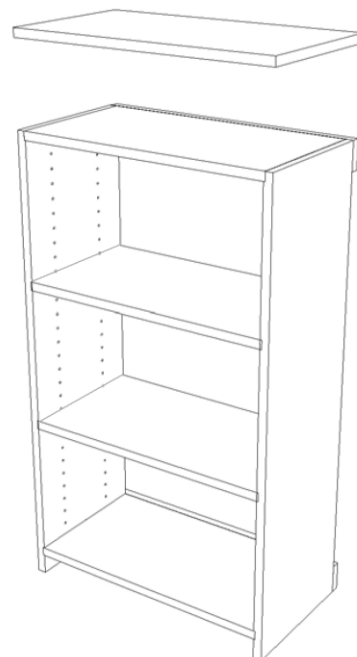

Figure 5
9. **To attach a tabletop:** Position the tabletop so it is flush with the sides, front and back of the rect. bin. Using the washer head screws provided, fasten the tabletop by drilling through the under side of the bin's top panel (**Figure 5**).